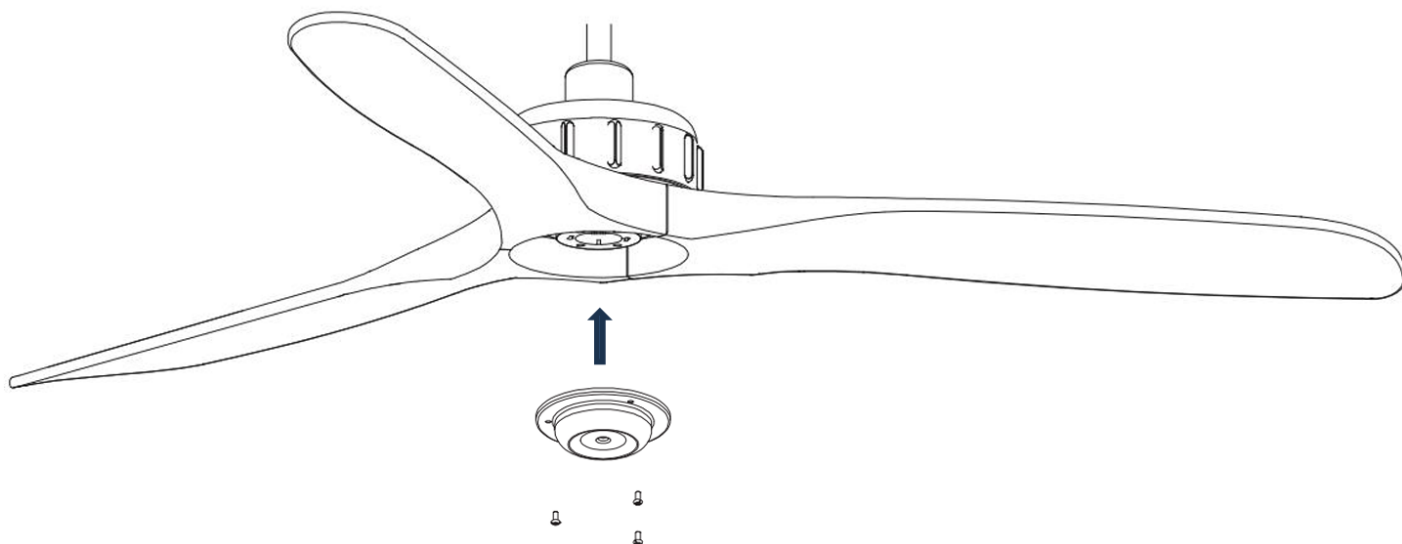
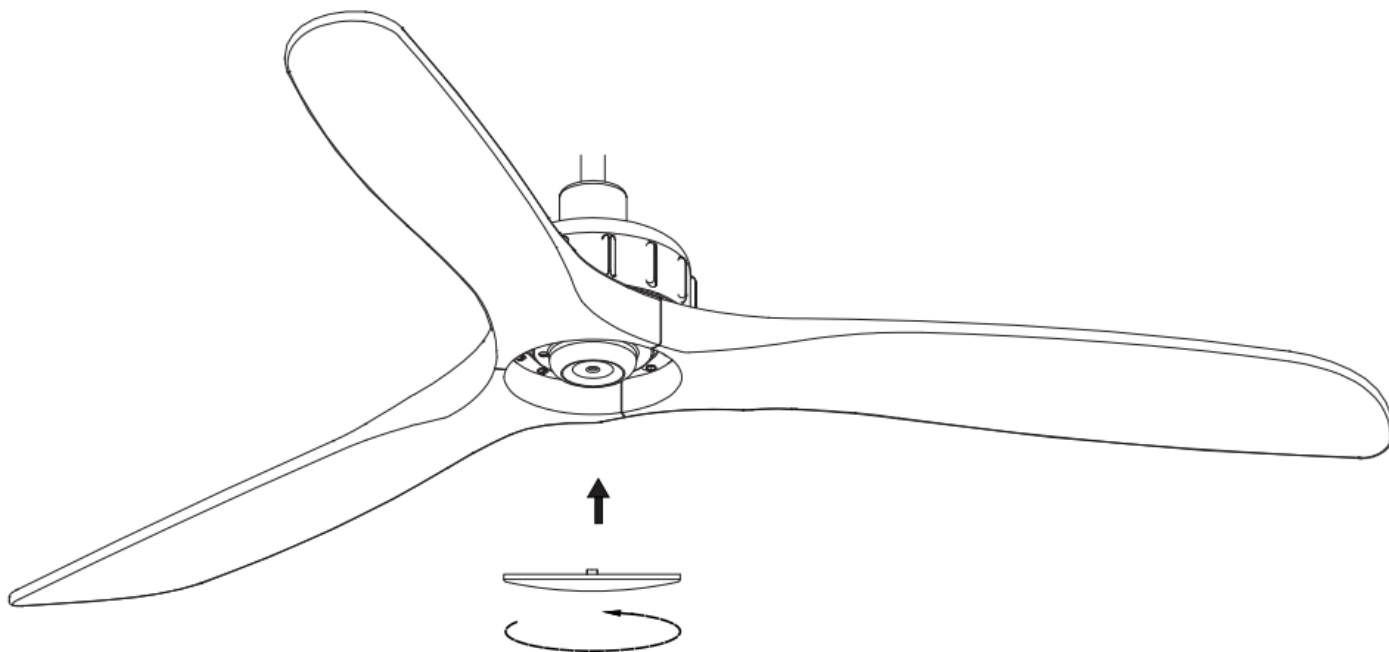

Fig. 9
Fig. 10
INSTALLATION OF BOTTOM COVER (Fig. 9 & Fig.10)
2. Orientate the adapter onto the fan bracket, mount the adapter onto the fan bracket using three screws. Tighten all three screws. Do not over-tighten. (Fig.9)
5. Install the bottom cover to the adapter then secure it by turning clockwise. (Fig.10)